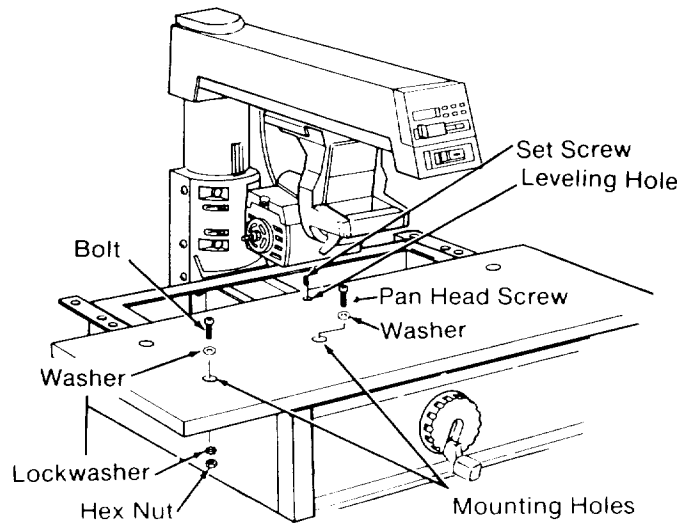

Fig. 67
4. Place the *front table* on the *saw* so that the *mounting holes* in the *table* line up with holes in the *table supports* and center channel of *saw*. (Figure 67)
5. Start the *cup point set screw* through the *leveling hole*. Do not tighten. (Figures 67 & 68)
6. Put a *washer* in each of the *mounting holes*. (Figures 67 & 69)
7. Start a *pan head machine screw* through the center *mounting hole*. Do not tighten. (Figures 67 & 70)
8. Install the *pan head bolts through the other four mounting holes*. Put a lockwasher and hex nut on each bolt and tighten using a Phillips screwdriver. (Figures 67 & 71)